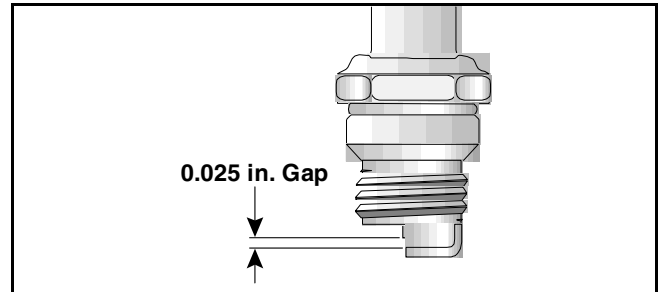

Figure 10
- Set the air gap at 0.025 in (0.655 mm.) using a feeler gauge. See Figure 10.